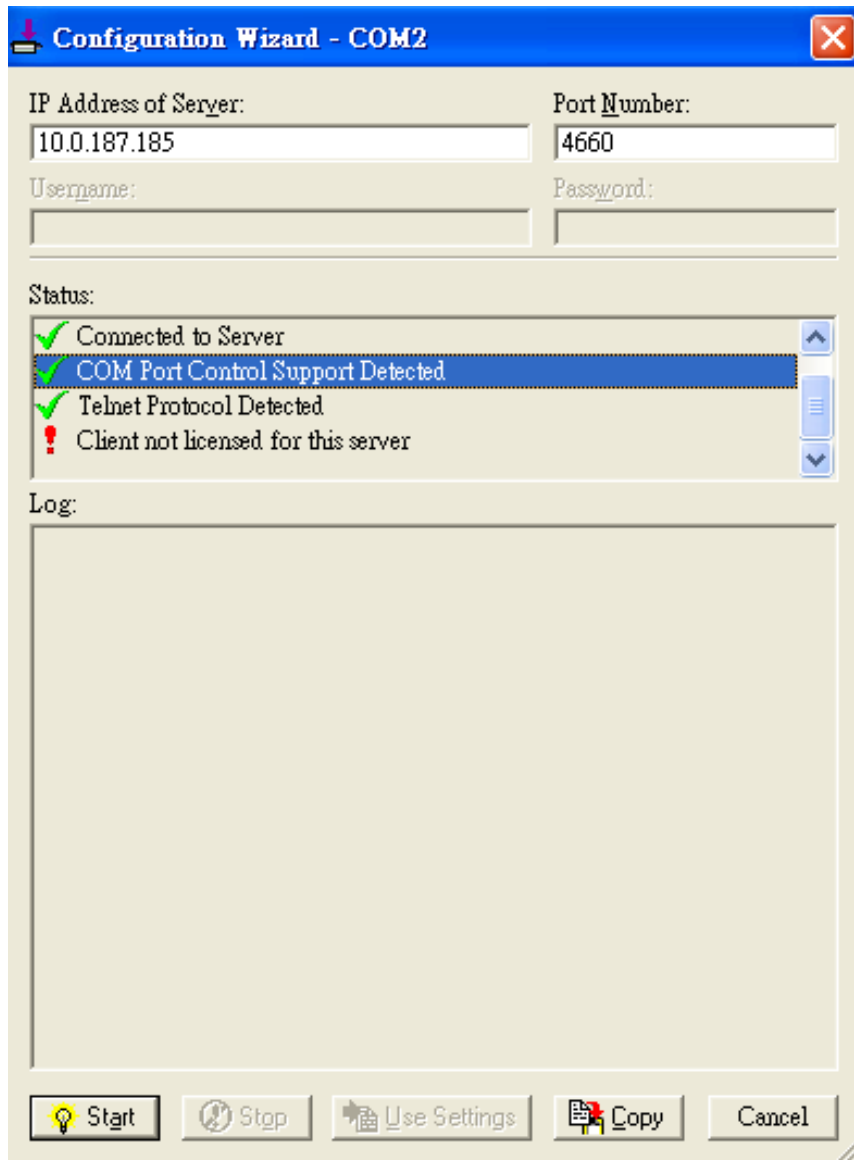

Figure 6.13 Licensing Issue of Serial/IP Utility Software
- If the status reports with a check with a message **“Telnet Protocol Detected”** and an exclamation mark with a message **“Client not licensed for this server”** as shown in Figure 6.13. This means that there is a licensing issue between the serial gateway (i.e. PS4000/8000/16000) and the Serial/IP Utility Software. Please contact TCPLink technical support to obtain the correct VCOM software.